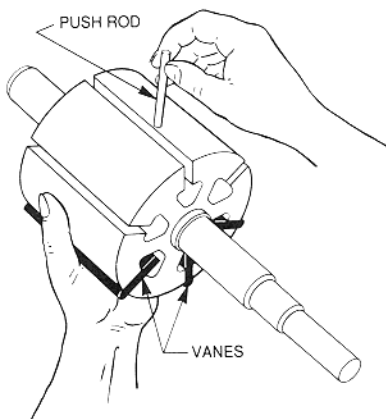

Figure 3 - Push Rod Installation
- b. Hold the vanes in place while inserting the push rods (77) as shown in Figure 3.